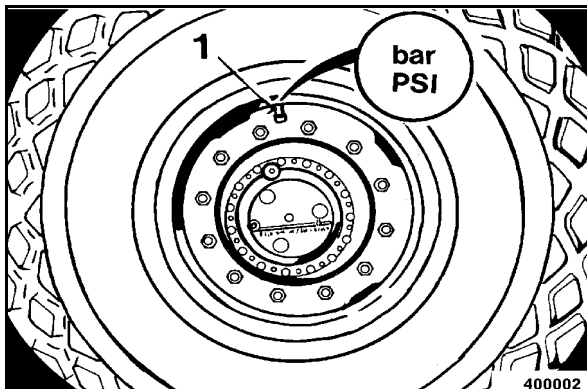

Fig. 126
- With the tire inflation valve check the air pressure on tire inflation valve 1 (Fig. 126) with a pressure gauge.